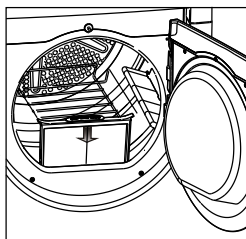

Fig.4
6. Insert the lint filter, must be inserted flush with the drum edge. (Fig.4)